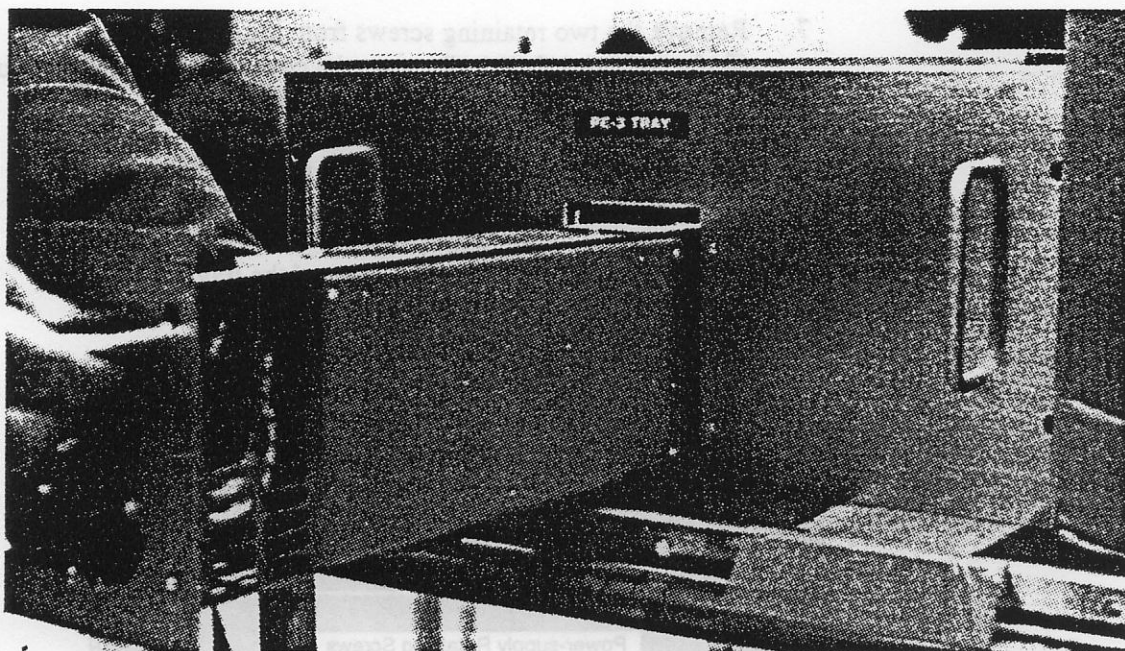

Figure 7-41. PE-3 Power Supply
5. Remove the four power-supply retaining screws. Refer to Figure 7-41.
7. Remove the two retaining screws from the disk tray top cover. (Refer to Figure 7-41.) Remove the cover by lifting the front up and out to disengage the rear location tabs.